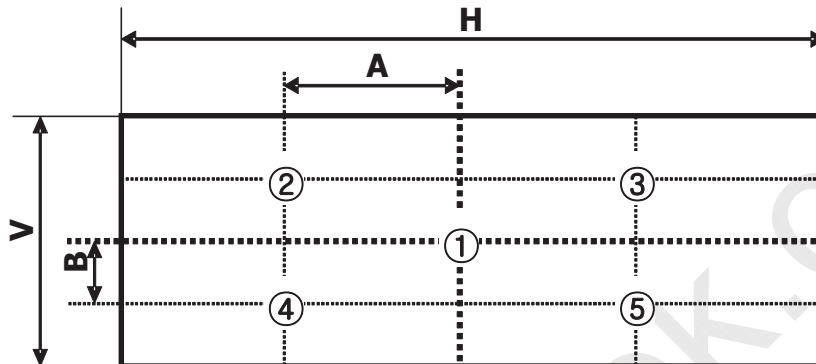

FIG.8 5-Points for Luminance Measure
2. Surface luminance (LWH) is luminance value at Center 1 point(P1) across the LCD surface 50cm from the surface with all pixels displaying white. For more information see FIG.8
For more information see FIG.8